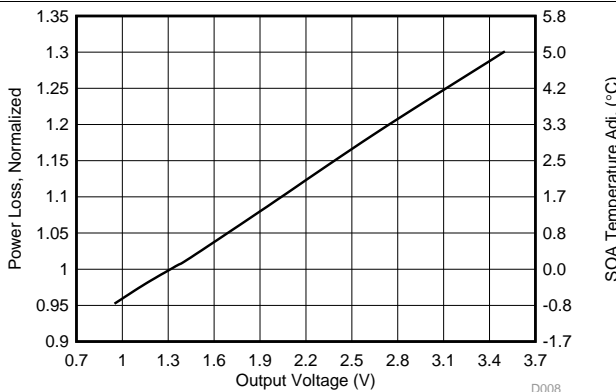

Figure 7. Normalized Power Loss vs Output Voltage
- Normalized power loss for output voltage  $\approx 1.01$  (Figure 7)